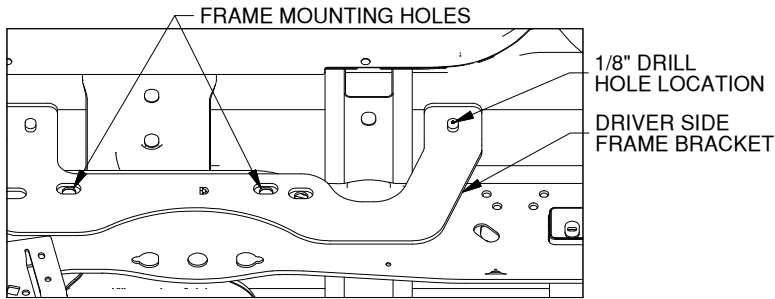

Figure B2: View looking into driver side wheel well.
- 3. Check hole locations.** Using the frame brackets, align each bracket to the side of the frame where the brackets will be installed, see Figure B2. Check that the 1/8" holes are centered within the slots in the frame brackets. If the 1/8" drilled holes are not centered re-drill the 1/8" holes until the brackets and the drilled holes are aligned.